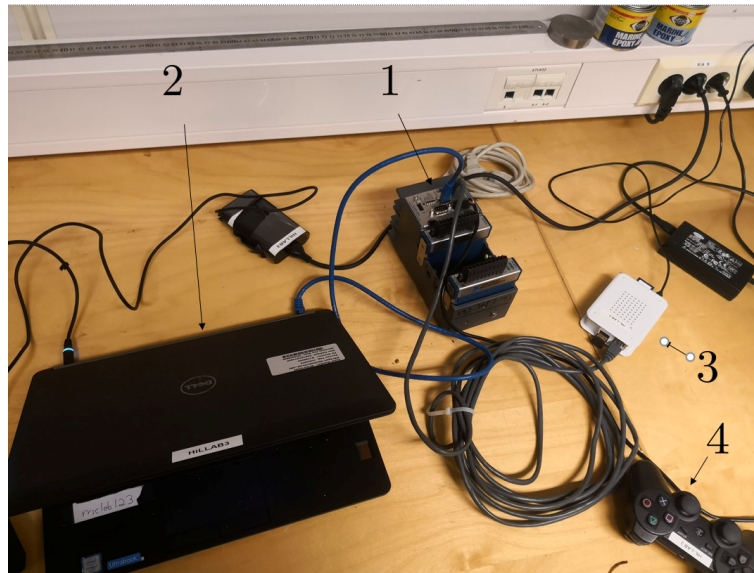

Figure 4
For HIL testing, three boxes with HIL equipment are available (See Figure 4). These contains the following:
1. Set up and connect the equipment as shown in Figure 4. It is advised that you first turn on Compact rio, then Raspberry Pi, then wait with turning the controller on until the Raspberry Pi has loaded.